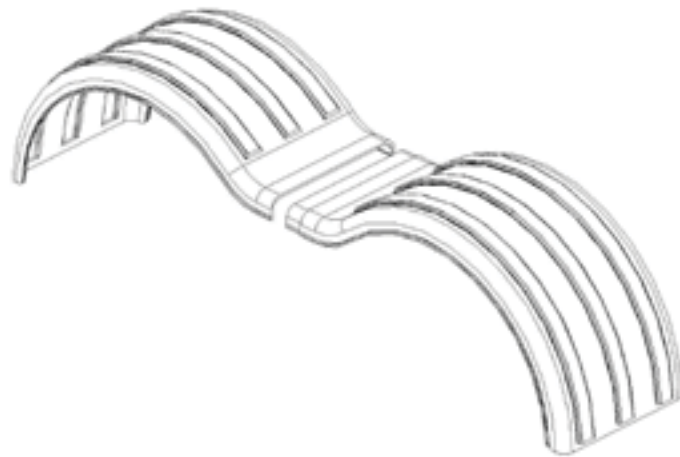

Figure 1
- B. Compare your parts with the hardware kit B9900BTSA as shown in Figure 1.